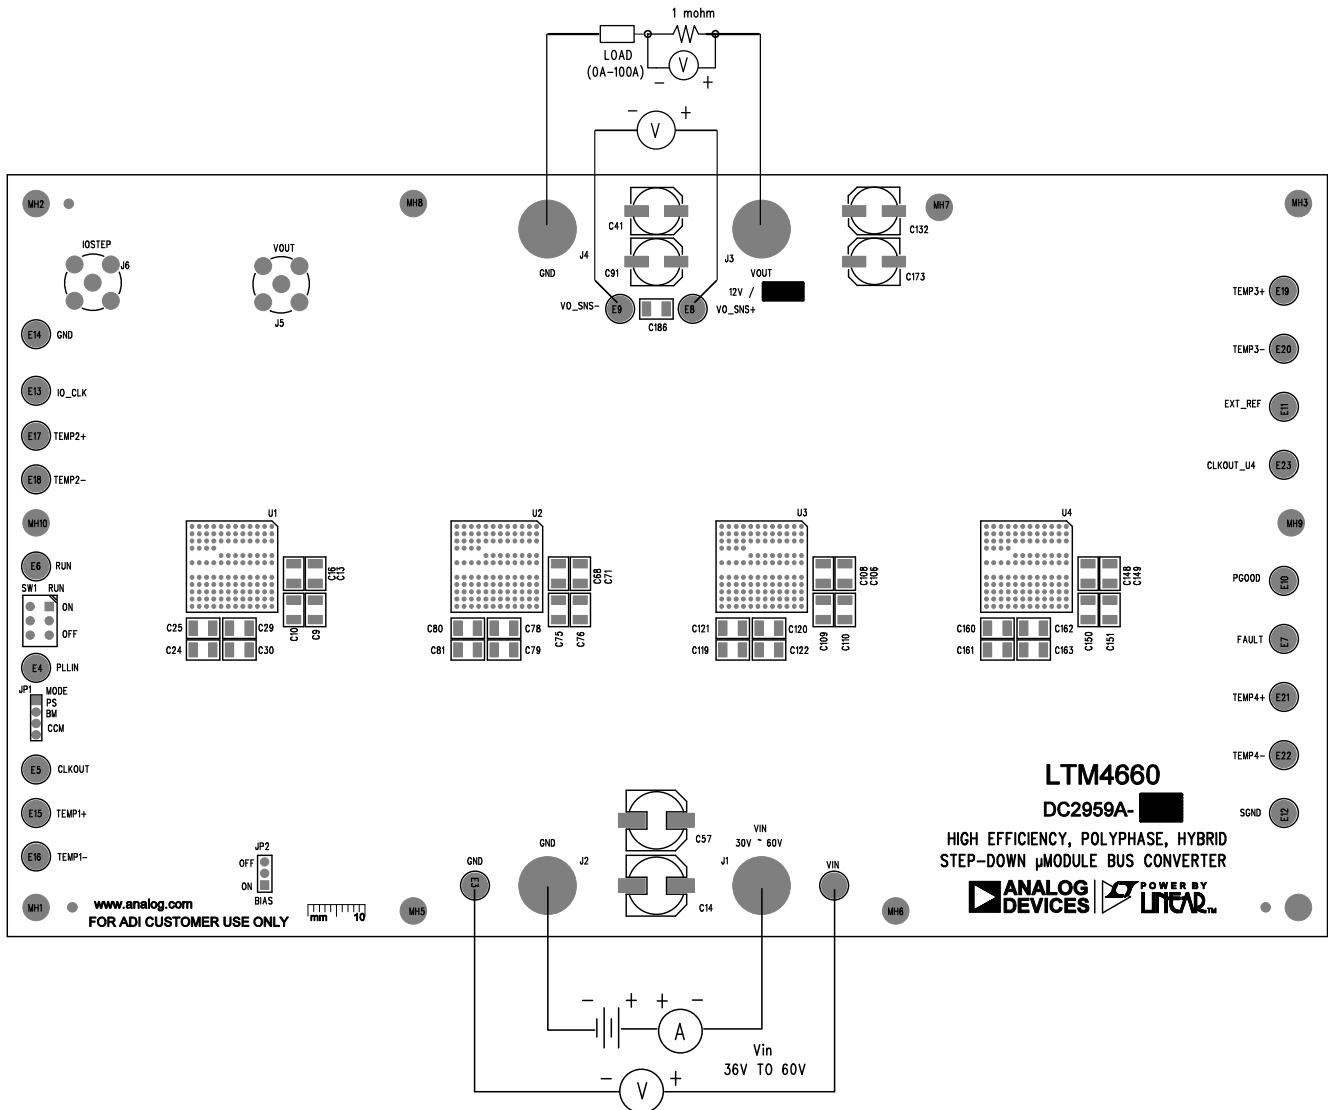

Figure 2. Proper Measurement Equipment Setup
Demonstration circuit 2959A-C is easy to set up to evaluate the performance of the PolyPhase operation of the LTM4660. Due to the high input/output current, users should select the proper input supply/load/cable which can sustain the full load operation. See Figure 2 for the proper measurement equipment setup and follow the procedure below.
2. Connect the output load between V_{OUT} and GND (Initial load: no load). See Figure 2.